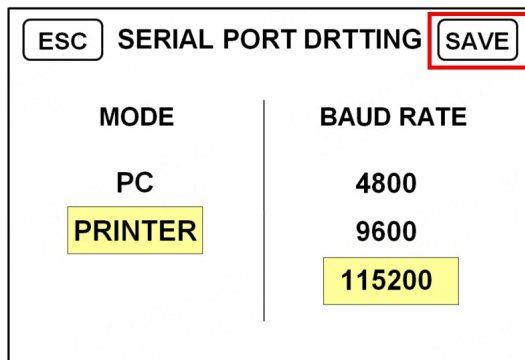

Figure 57
3) In the "SERIAL PORT MODE" interface, click and select "PRINTER" in the MODE column on the left, and then click and select the same baud rate value as the printer in the BUAD RATE column on the right. When the selection is complete, touch the "SAVE" button in the upper right corner to save, as shown in Figure 57 below.